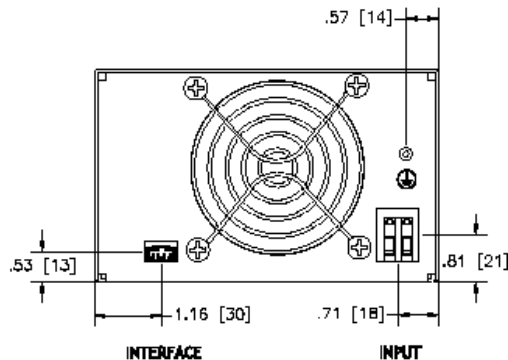

Figure 6.1 Input Side of CCPF-500
- **Required wire and connectors:** Refer to the Figure 6.1 below for the locations of connections. Table 6-1 below shows required cables and connectors: